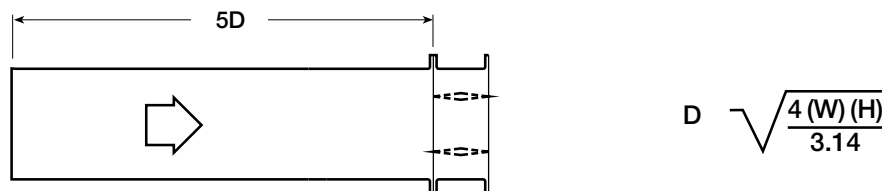

Figure 5.2
**Figure 5.2** Illustrates a ducted damper exhausting air into an open area. This configuration has a lower pressure drop than Figure 5.5 because entrance losses are minimized by a straight duct run upstream of the damper.
**AMCA Figure 5.2**